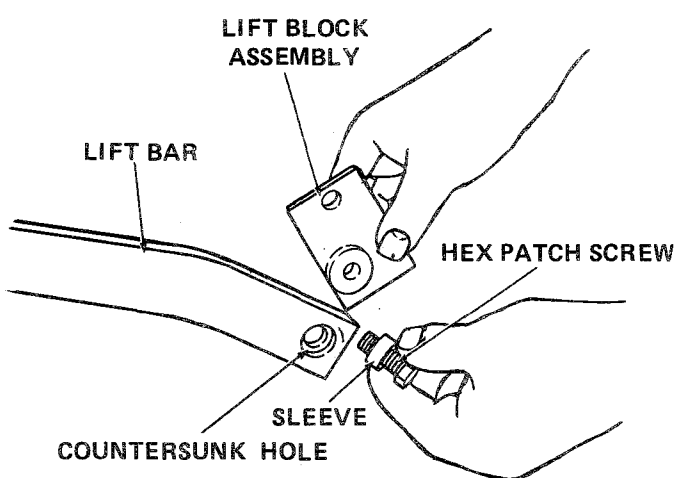

Figure A-11
- f. Lubricate countersunk hole in end of lift bar with 251H EP grease. Place sleeve (U) over hex patch screw (V) and insert through countersunk hole. Thread lift block assembly (11) onto hex patch screw until screw end is flush with lift block assembly. Refer to Figure A-11.